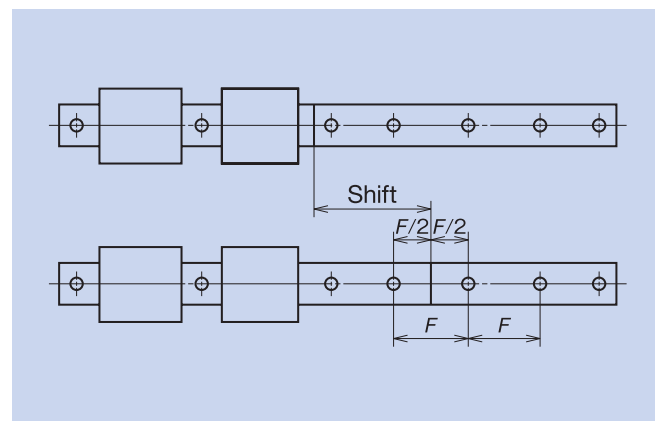

Fig. 12
- The pitch of the rail mounting hole on the butting section should be as F in Fig. 12. When two rails are used in parallel, the butted sections should not align. This is to avoid change in the running accuracy of the table at the butted sections.